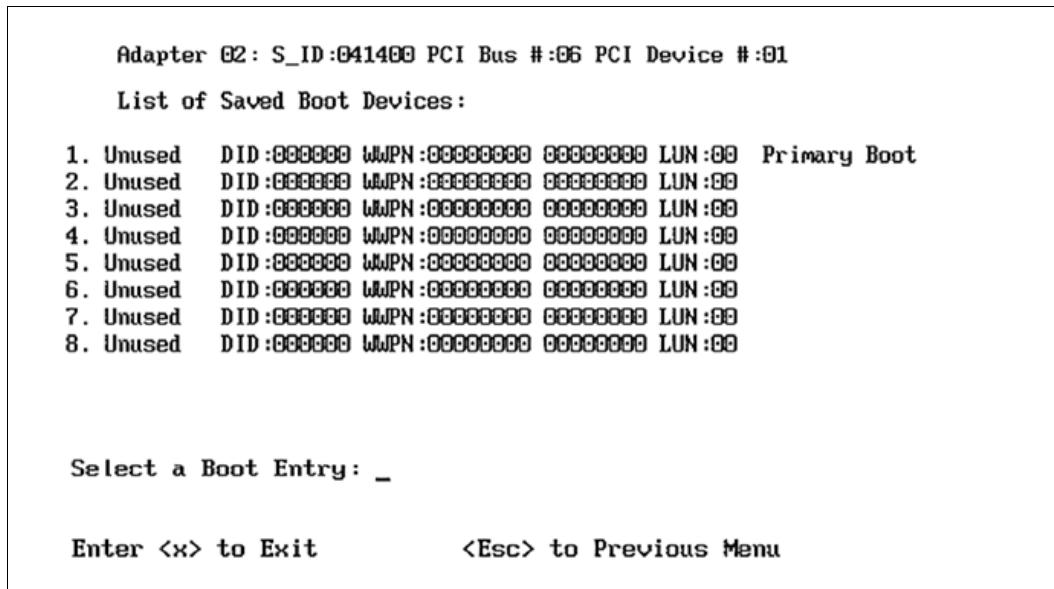

Figure 18-15 Configure boot device panel
8. The eight boot entries are zero by default. The primary boot device is listed first, it is the first bootable device. Select a boot entry to configure and select **1** as shown in Figure 18-15.